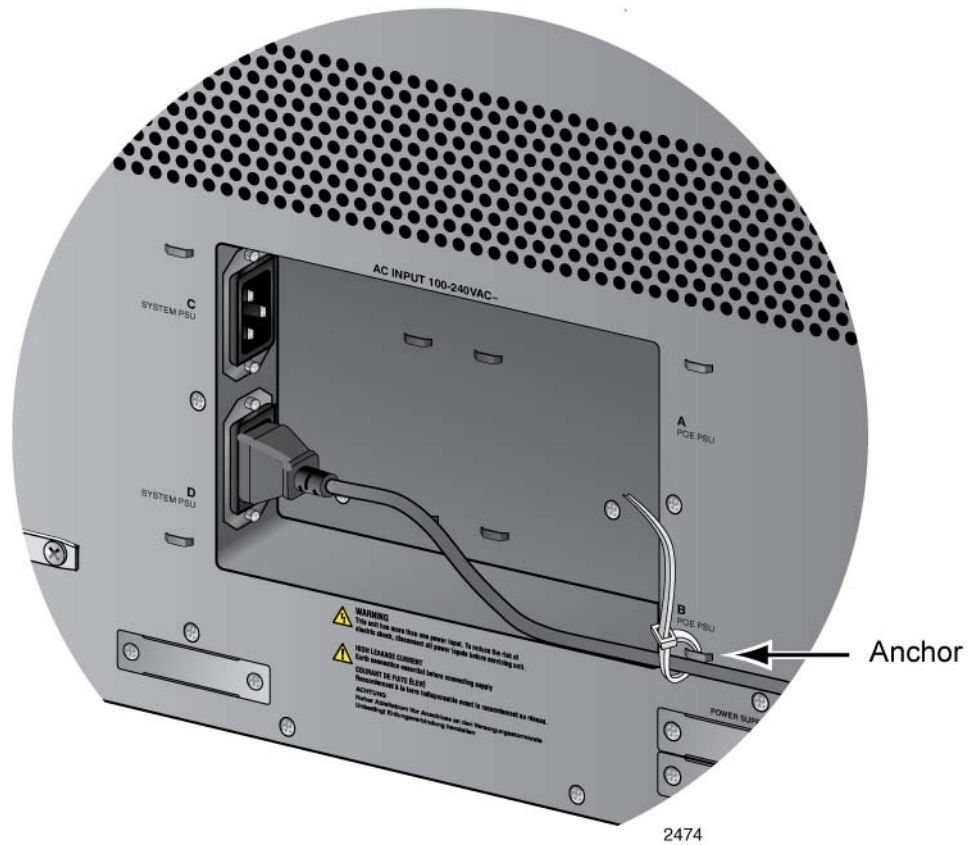

Figure 124. Securing the Power Cord for the AT-SBxPWRSYS1 or AT-SBxPWRSYS2 AC Power Supply to an Anchor
3. Use the twist tie included with the power supply to secure the cord to an anchor on the chassis to protect it from being accidentally pulled out, as shown in Figure 124 on page 206.